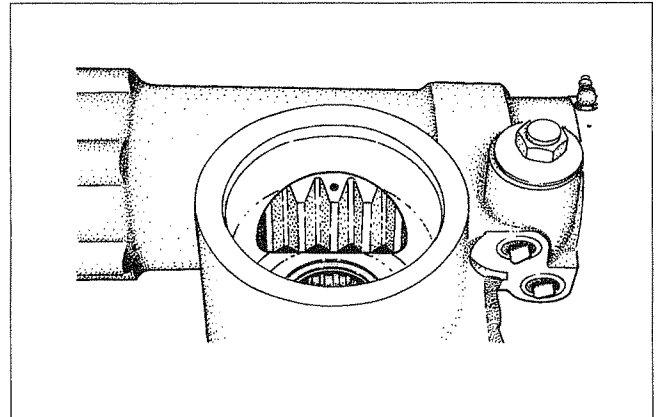

Figure 31
2. Locate the timing mark on the piston and center the piston in the sector shaft bore (Figure 31).